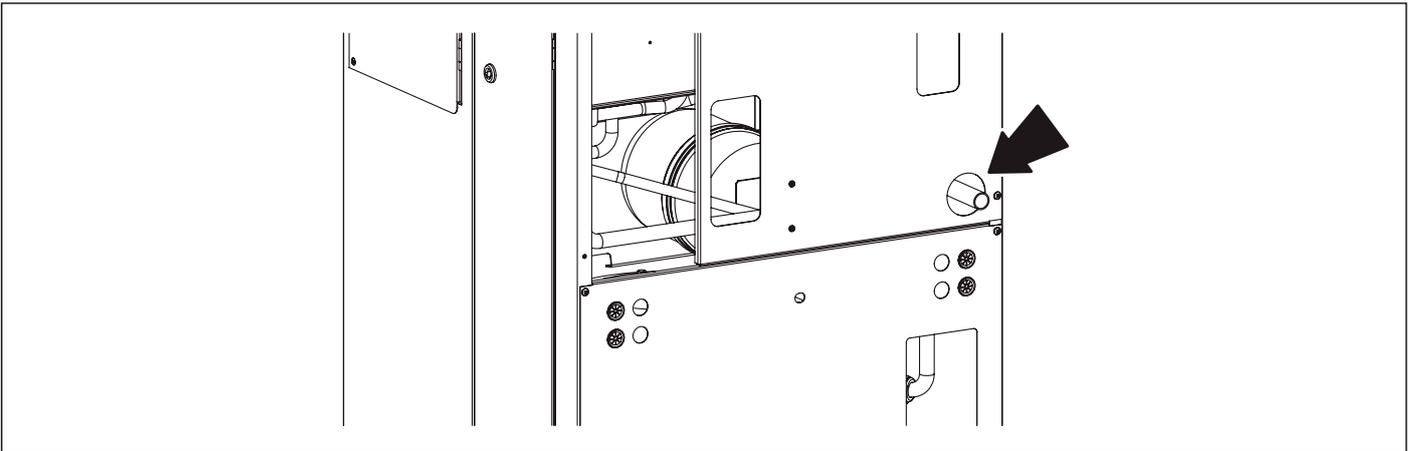

Fig. 23 Condensate drain
When connecting the boiler to gas supply network, it is **COMPULSORY** to install an appropriately sized gasket (A) made from suitable material (see Fig. 23 Condensate drain).